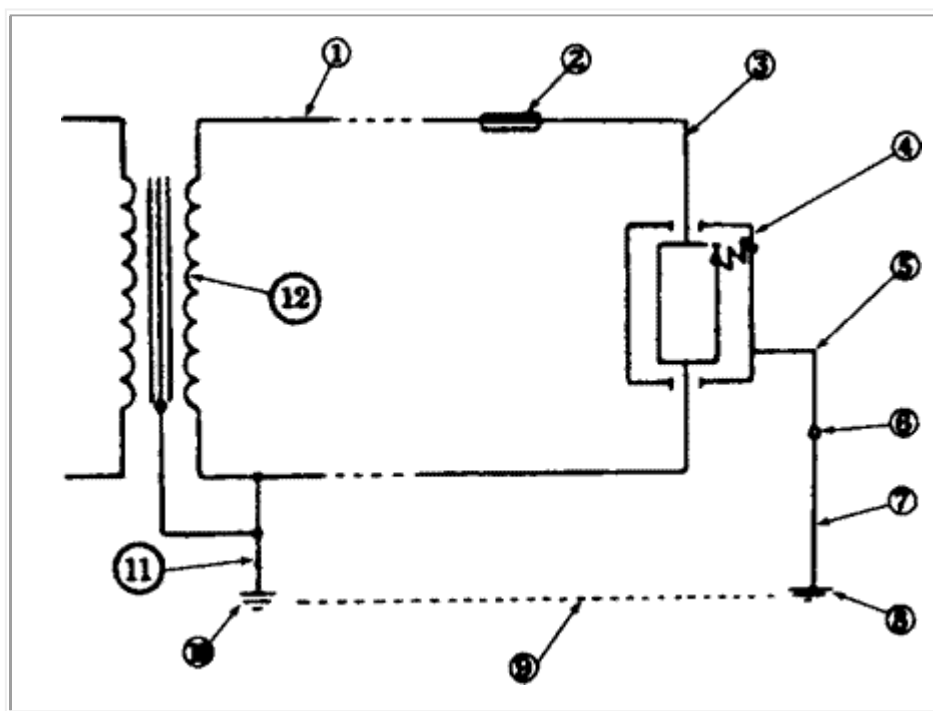

Fig.6 The earth fault loop
- The extent of the earth fault loop for a TT system is shown in {Fig .6},and is made up of the following labelled parts.